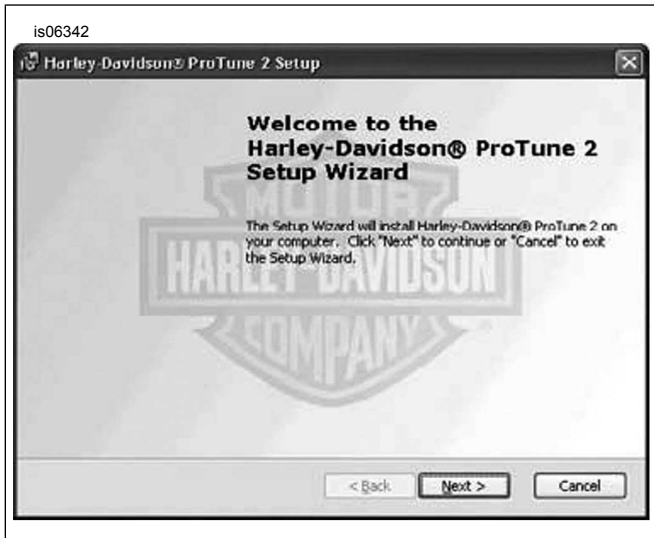

Figure 2. Setup Wizard
- See Figure 2. The ProTune II Setup Wizard will appear on your screen. From the ProTune II Setup Wizard click **Next** and the **Ready to Install** window will open.